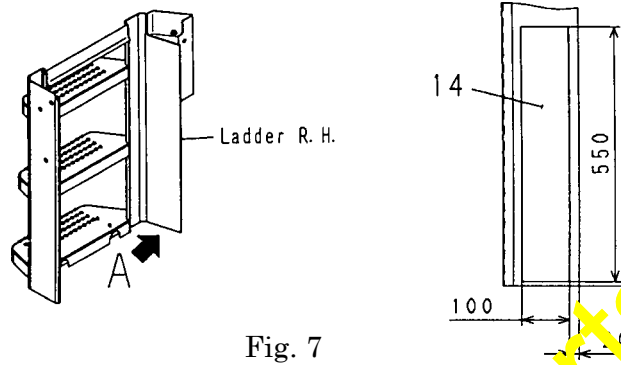

Fig. 7
(1) Assembling the right handrail and ladder
- (a) Attach sheet, No. 14 (421-54-34930) to the ladder as shown in Fig. 7 using adhesive LT-1B.